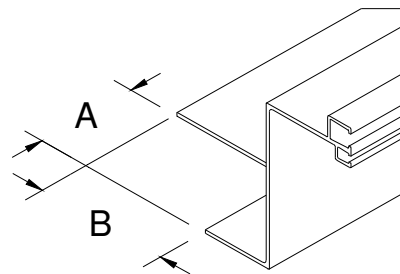

Figure 9.1 - “Z” Shaped Lintel Seal Cutout
2. Make the “A” & “B” cutouts to the ends of the extrusion(s) according to the dimensions on the shop sheet to allow for the guide setbacks and pack-off. (See **Figure 9.1**)